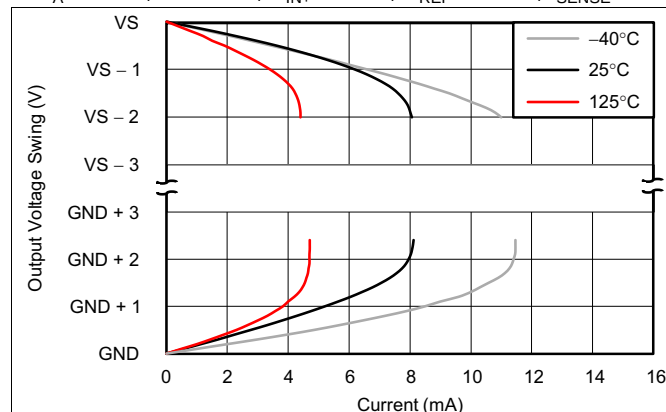

Figure 19. Output Voltage Swing vs Output Current
(6) System gain error includes amplifier gain error and the integrated sense resistor tolerance. System gain error does not include the stress related characteristics of the integrated sense resistor. These characteristics are described in the Shunt Resistor section of the Electrical Characteristics table.
(7) See Output Voltage Swing vs Output Current (Figure 19).